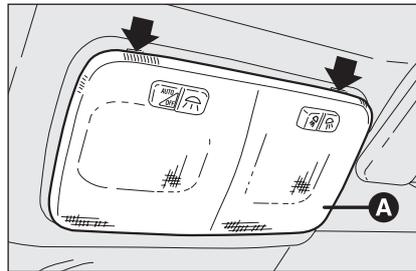
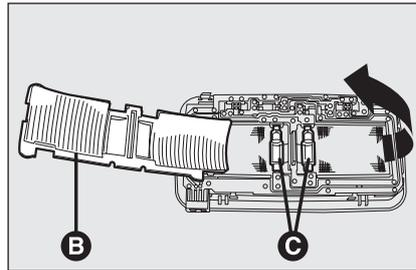

fig. 34
fig. 35
- work in the points shown by the arrows and remove light **A-fig. 34**;
- open the protection lid **B-fig. 35**;
- replace bulbs **C-fig. 35** releasing them from the side contacts; make sure that new bulbs are correctly clamped between contacts;
- re-close the lid **B-fig. 35** and secure light **A-fig. 34** into its housing locking it properly.